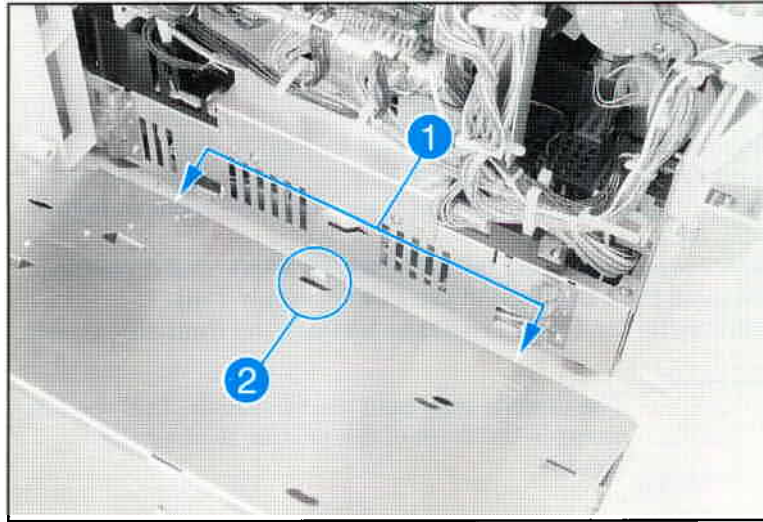

Figure 6-15      Formatter Retaining Slots
1. Align locator tabs on the lower rail with the slots on the bottom of the Formatter assembly (see Figure 6-15, item 1).
2. Rotate the Formatter assembly into position, being careful to insert the locator on the back of the assembly into the slots in the printer frame. (See Figure 6-15, item 2.)